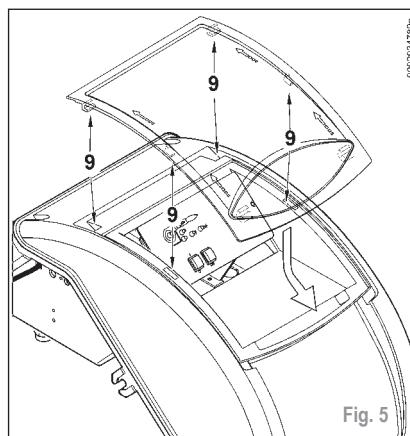

Fig. 5
- To secure the transparent door on the panel properly, proceed as indicated in figure 5: position the hooks at their hooking points and (9) slide the door in the direction indicated by the arrow until it clicks. It is now well sealed.